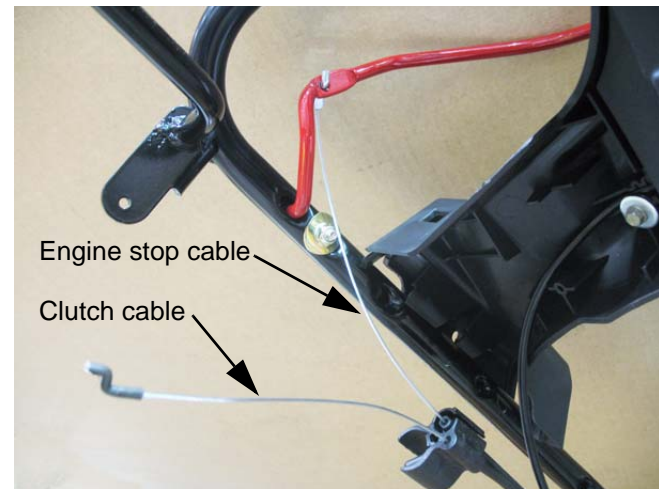

Figure 5.22
8. With the cable slack, the Z-fitting at the top end of the cable core can be un-hooked from the clutch bale. See Figure 5.22.